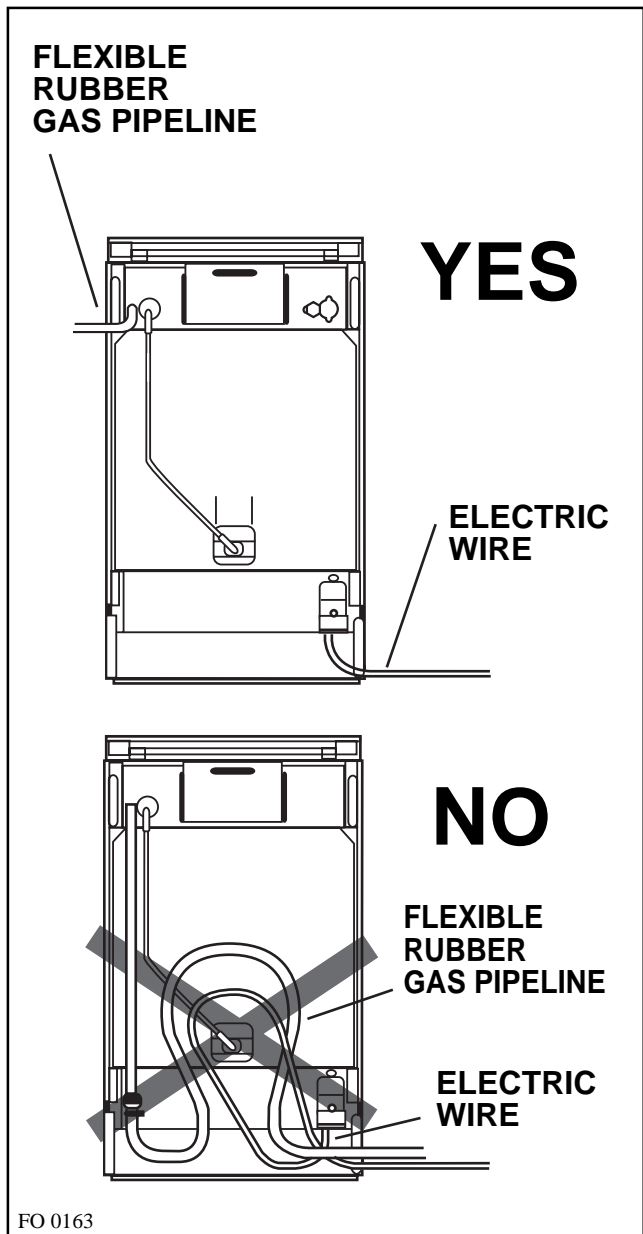

Fig. 26
- nowhere it can reach overtemperature, other than room temperature, higher than 30°C; if the flexible pipe, to reach the cock, must run behind the range, it must be installed as shown in Fig. 26;